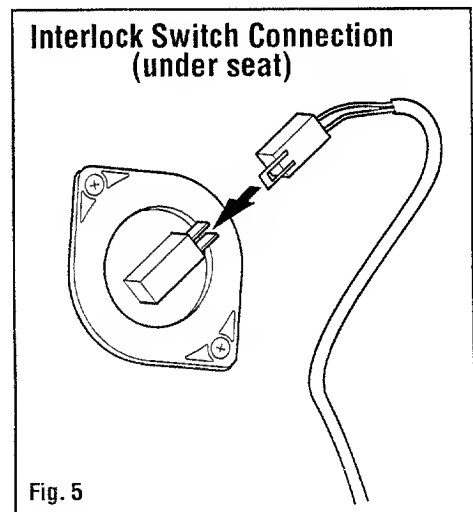

Fig. 5
□ Plug seat interlock lead (Fig. 5) into interlock switch on bottom of seat.